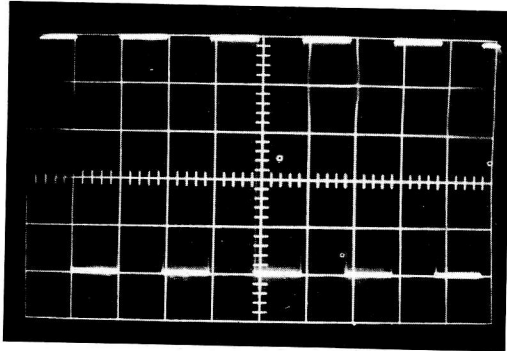

Figure 3-4. Volts Out Display
e. Observe that the oscilloscope under test displays the square wave signal at approximately 5 divisions peak-to-peak. See Figure 3-4.